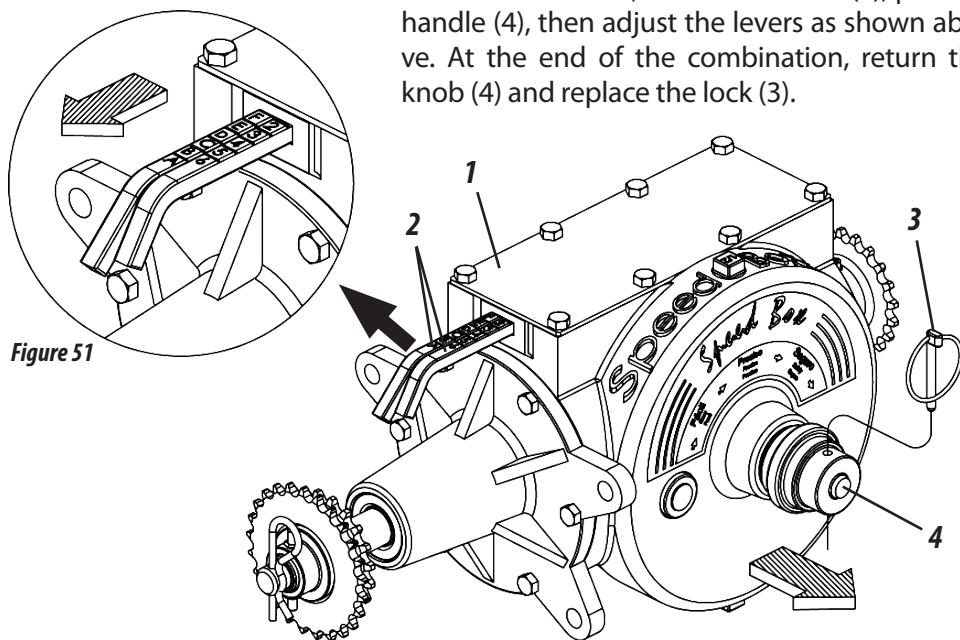

Figure 51
SPEED BOX (FIGURE 51)
- 1- Select the desired quantity in the tables and check the corresponding combination on the levers (2). **Example:** Position **F2** In the table, indicates that the lever with letters should be in position "F" and the lever with numbers must be in position "2", as shown in figure 51.
- 2- To move the levers, remove the lock (3), pull the handle (4), then adjust the levers as shown above. At the end of the combination, return the knob (4) and replace the lock (3).